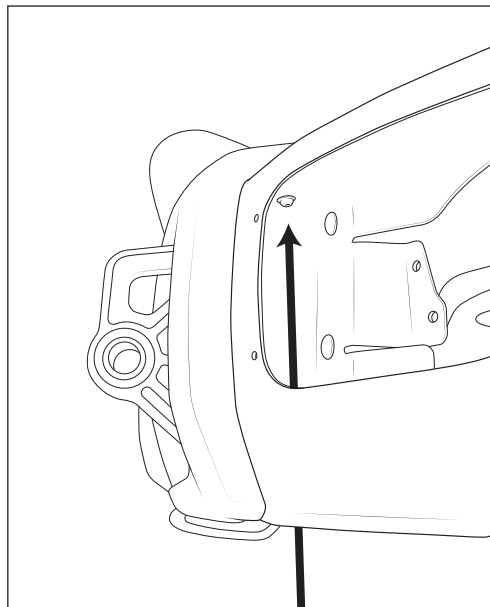

Figure 24
3. Install the M10x25 button head bolts and washers into the guards ends and hand tighten (fig. 24).